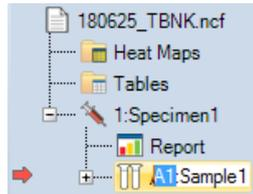

Figure 3-3 Modify Well ID in the Experiment Manager Panel
- Click *Sample1* in the *Experiment Manager* panel to select the node (Figure 3-3). Right-click and select *Rename*. The Well ID can now be modified to A2.